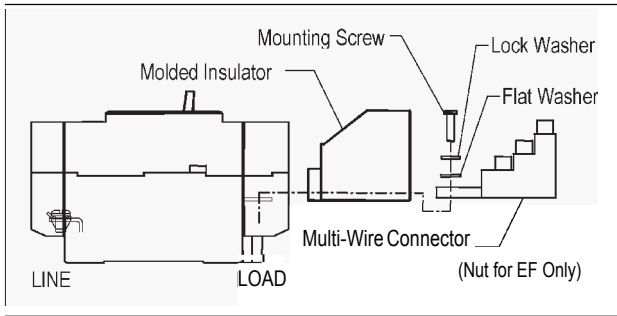

Fig. 2-1. T Multi-Wire Terminal Connector Kit Installation Layout
a. Tapped Terminals (Refer to Fig. 2-1):
b. Collar Assemblies (Refer to Fig. 2-1):
c. G Frame Breaker with Installed Aluminum Single Wire Connectors (refer to Fig. 2-1):